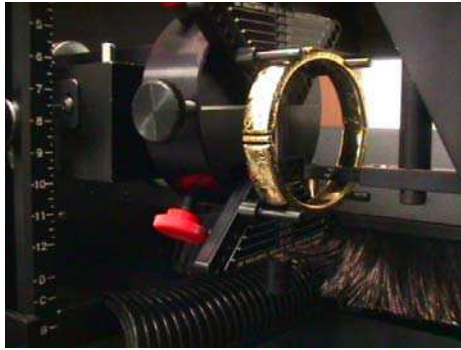

Figure 3
4. Place the Workholder Clamp onto the Vise Clamp, which should already be attached to the left vise block on the engraver. Lower the block so that the diamond tip on the Spindle Block Attachment is 1/8" from the surface to be engraved. Position the cutting tip in the center of the engraving area. (See Figure 3)